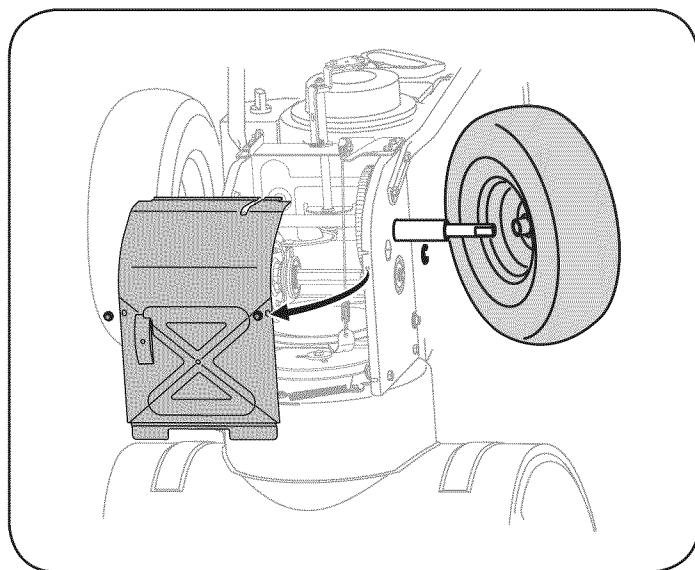

Figure 34
5. Remove the right-hand wheel by removing the screw and bell washer which secure it to the axle. See Figure 34.